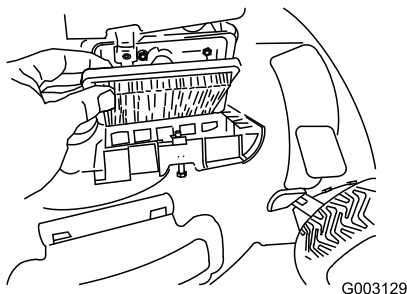

Figure 29
4. Install the cover (Figure 29).